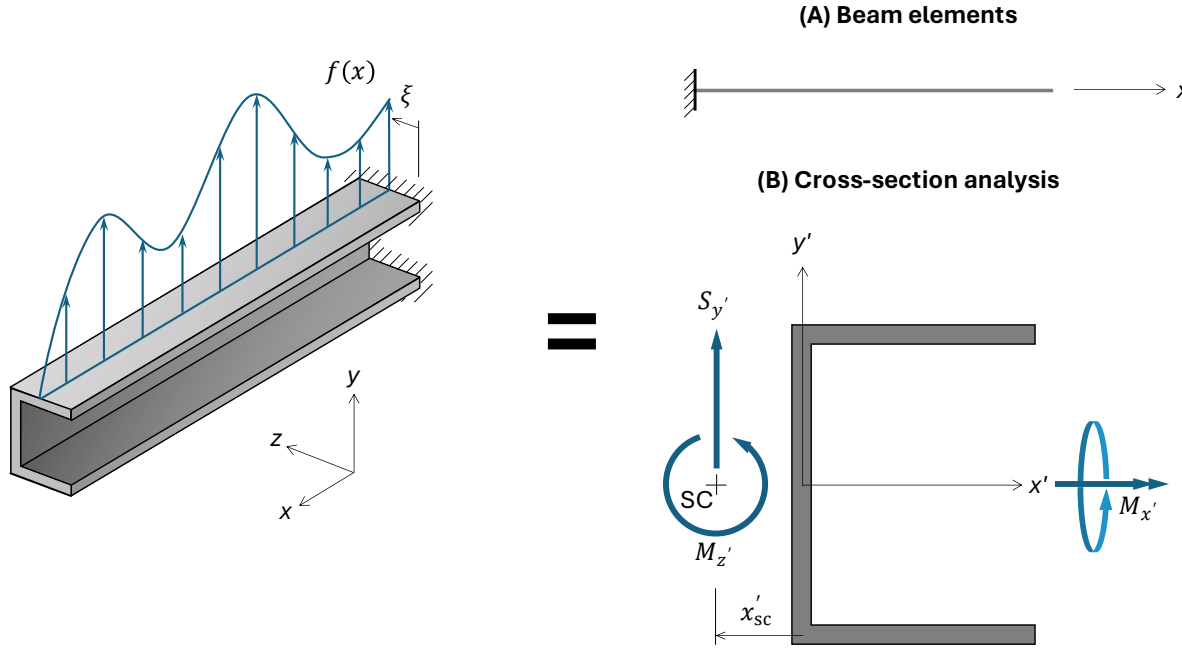

Figure D1. Example beam structure.
Problems involving slender structures are solved numerically by splitting the problem into (A) a finite elements one-dimensional beam discretization, and (B) an analysis of the stresses in the two-dimensional cross-sectional area. As an illustrative example consider the beam depicted in Figure D1.